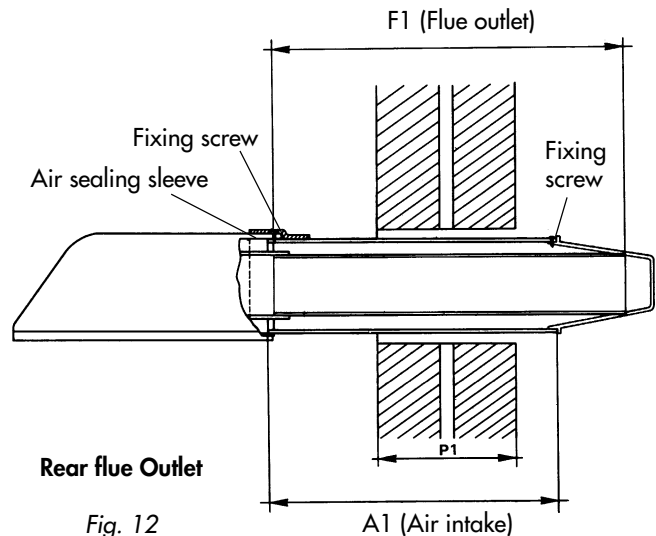

Fig. 12
4.1 Rear Flue Outlet (fig. 12)
- 6.1.7 Check the terminal relationship with the wall as shown in fig. 12.